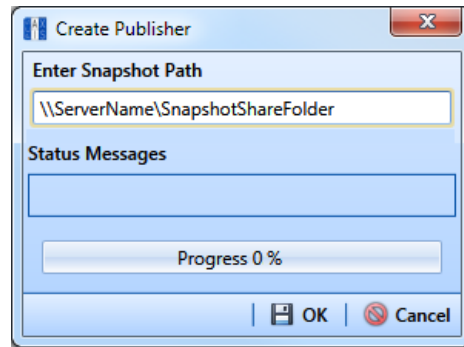

Figure 17-2. Create Publisher
- 1 Click **Tools > Synchronization > Create Publication** to open the *Create Publisher* dialog box (Figure 17-2).